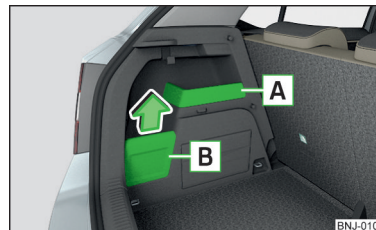

Fig. 111
- If possible, take the item of luggage suspended from the hook and place it in the storage compartment **B** » Fig. 111 on page 85, otherwise there is a risk of damaging the storage compartment cover.
- If an item of luggage weighing more than 2.5 kg is suspended on the hook, then we recommend removing the storage compartment cover **B** » Fig. 111 on page 85, otherwise there is a risk of damaging the storage compartment cover.
The integrated storage compartment **A** » Fig. 111 is suitable for stowing small objects weighing up to 1.5 kg in total.